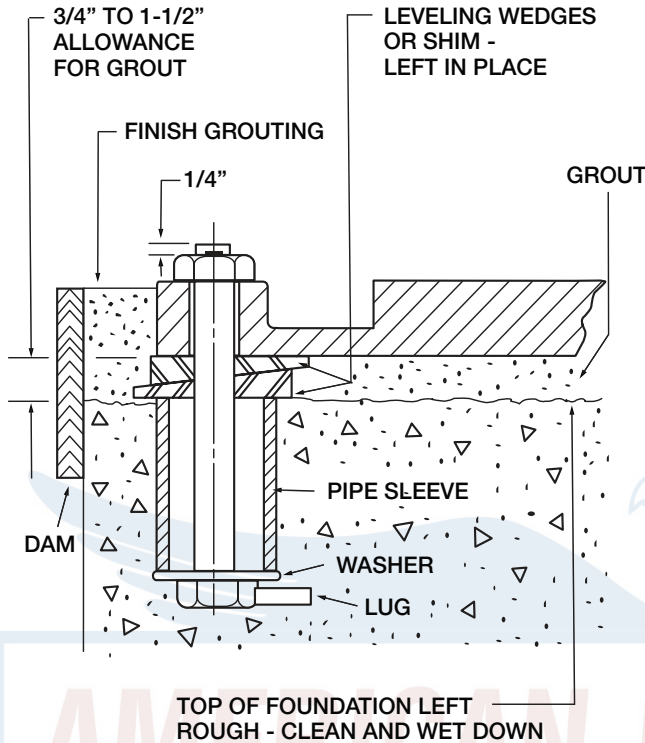

FIGURE 2 – Base Plate Foundation
2. Level the pump base plate assembly. If the base plate has machined coplanar mounting surfaces, these machined surfaces are to be referenced when leveling the base plate. This may require that the pump and motor be removed from the base plate in order to reference the machined faces. If the base plate is without machined coplanar mounting surfaces, the pump and motor are to be left on the base plate. The proper surfaces to reference when leveling the pump base plate assembly are the pump suction and discharge flanges. **DO NOT** stress the base plate. Do not bolt the discharge flanges of the pump to the piping until the base plate foundation is completely installed. If equipped, use leveling jackscrews to level the base plate. If jackscrews are not provided, shims and wedges should be used (see figure 2). Check for levelness in both the longitudinal and lateral directions. Shims should be placed at all base anchor bolt locations, and in the middle edge of